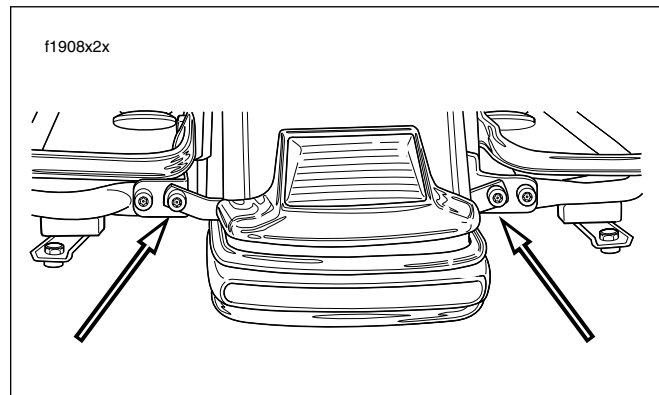

Figure 2-192. Rear Bumper Screws (T40 TORX)
9. At rear of motorcycle, remove inside screw (and flange nut) to release rear bumper bracket from saddlebag support bracket and saddlebag support rail. Repeat step on opposite side of motorcycle. See Figure 2-192.
- 7. Start inside screw (with flange nut) to fasten rear bumper bracket to saddlebag support bracket and saddlebag support rail. Repeat step on opposite side of motorcycle. See Figure 2-192.